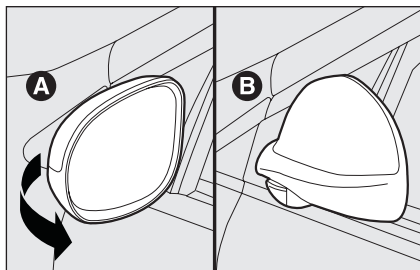

fig. 34
When required (for example when the mirror causes difficulty in narrow spaces) it is possible to fold the mirror moving it from position **A**-fig. 34 to position **B**.
*When driving the mirrors shall always be in position A-fig. 34.*